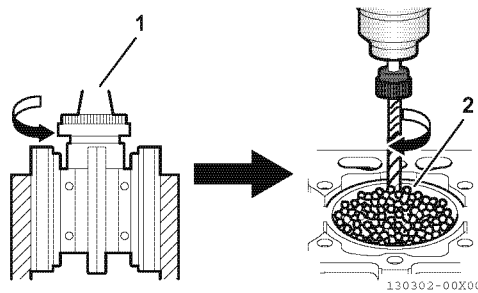

Fig.02-4
2. Honing: Minor cylinder imperfections may be corrected by using a rigid cylinder hone (1, Fig.02-4). Be sure not to exceed the maximum cylinder bore specification.
3. Deglazing: A used cylinder that did not require boring or honing should always be deglazed with a ball hone (2, Fig.02-4) before installing the new piston rings. This will properly prepare the cylinder surface to allow new piston rings to seat properly.
- Use a 300-grit hone at a speed of 300 - 1200 min⁻¹. (Fig.02-4)